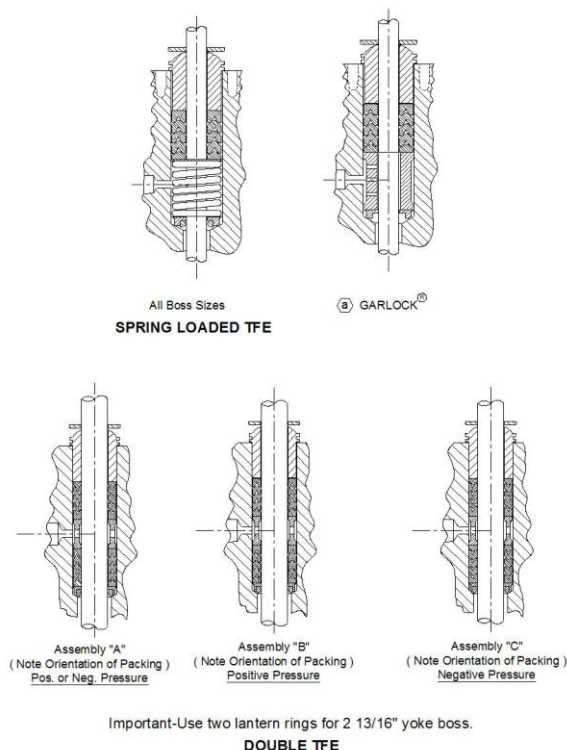

Figure 6: Packing Arrangements
- 4.2. **Design ET Trim:** Raise the end of the retaining ring (Key 15) using a screwdriver. Rotate the plug and lift the ring out and up. Avoid scratching any plug or ring surfaces. Remove the metal backup ring (Key 16) and TFE seal ring (Key 6b). Refer to Figure 6 and install the seal ring for proper flow direction. Install the metal backup ring. Insert one end of the retaining ring (Key 15) into the groove of the valve plug. While turning the plug, press the ring into the groove, being careful not to scratch the valve plug and retaining ring.